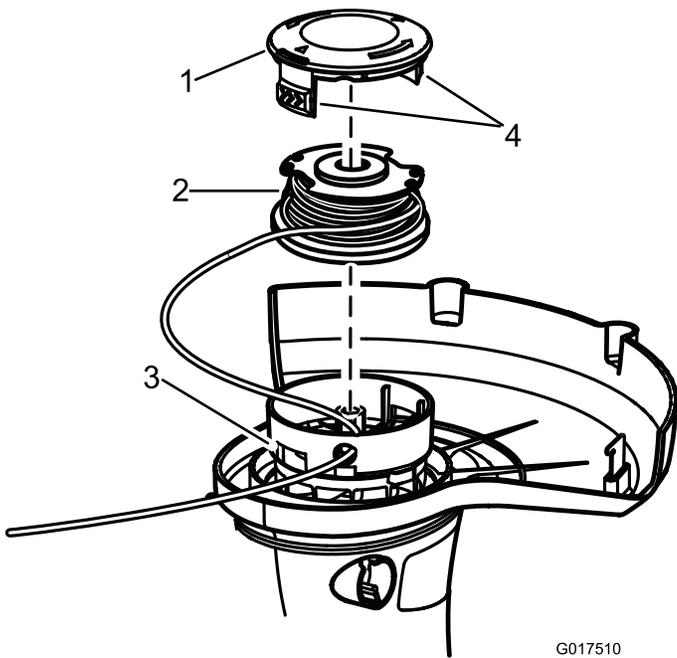

Figure 12
2. Push in the tabs on the side of the spool retainer (Figure 12).
2. Remove the spool. See Replacing the Spool (Figure 12).